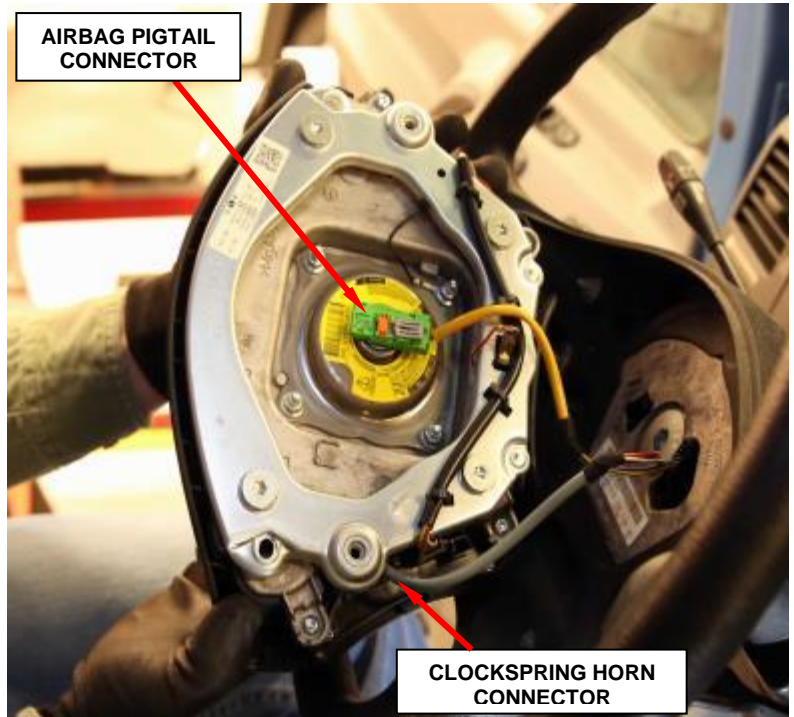

Figure 4 – Electrical Connectors
4. Disconnect the clockspring horn and steering wheel switch pigtail wire harness connector from the receptacle on the back of the driver airbag housing (Figure 4).
5. Disconnect the clockspring driver airbag pigtail wire harness connector from the airbag inflator connector receptacle, which is located on the back of the driver airbag housing (Figure 4). To disconnect the connector: